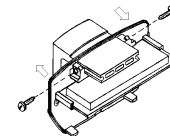

Fig.3
The CIR-75 is designed to allow shifting of its detection pattern relative to a wall, by sliding the unit rear housing along the mounting bracket. (See figure 3.) In addition, it is possible to change the detection pattern position in a vertical plane to 10°. This is done by rotating the lens 180° as follows:
2. Release screws (clamping the bracket to the unit rear housing) and remove rear housing from the bracket (fig.3). Do not remove the circuit board from the rear housing.